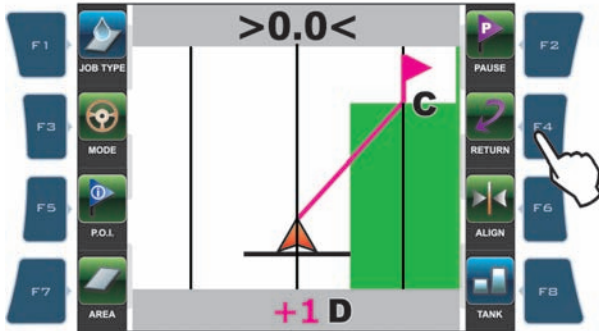

Fig. 237
Press **F4** to receive guidance information and go back to point of interest "Pause" (Fig. 237):
- A fuchsia line connecting the middle position to the flag shows the trajectory to be followed to get closer to marked point (**C** in Fig. 237).
- The display shows in fuchsia the number of tracks to be crossed before reaching point (**D** in Fig. 237): in the example, + next to the number indicates you shall move to the right, - indicates you shall move to the left.